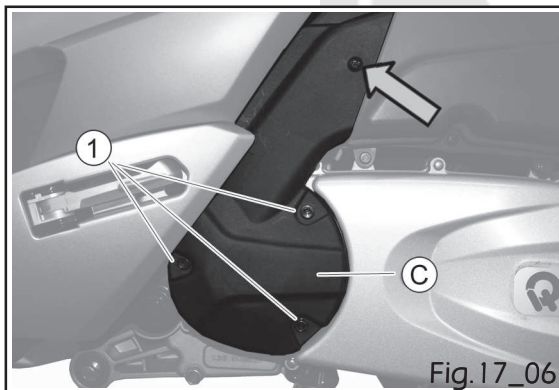

Fig.17_06
- Pull the cover «P» outwards in order to ease the removal of the duct (see fig. 17_06).
- Remove the duct «C» (see fig. 17_06).